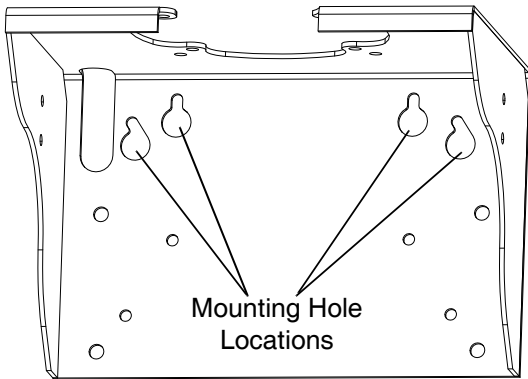

FIG. 27: Wall Mount Hole Locations
2. Ensure the wall mount is level using the wall bracket as a template. Drill four 7/16 in (11 mm) diameter holes for the mounting bolts. See **Figure 27** for the mounting hole fastener locations.